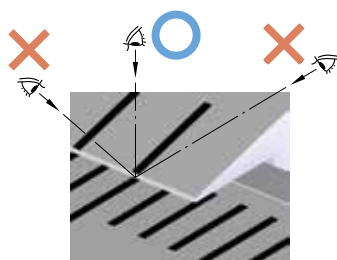

Fig. 4
1. Read the scale graduations from directly above the dial to avoid parallax error. (**Fig. 4**)